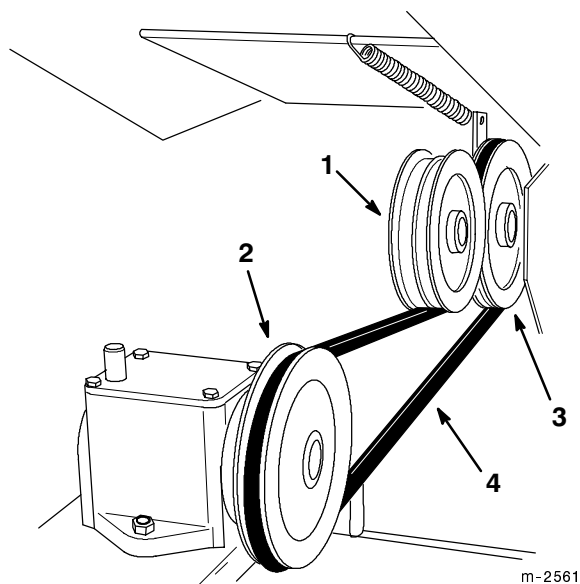

Figure 5
2. Lift the idler pulley and install the drive belt onto the traction unit output pulley and gearbox input pulley (Fig. 5).
3. Release the idler pulley to allow the pulley to spring back on top of the drive belt (Fig. 5).